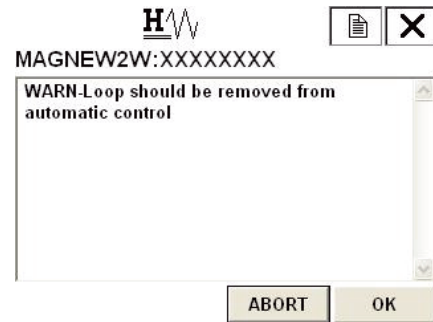

Fig. 7-83.
- Fig. 7-83. will then be displayed.